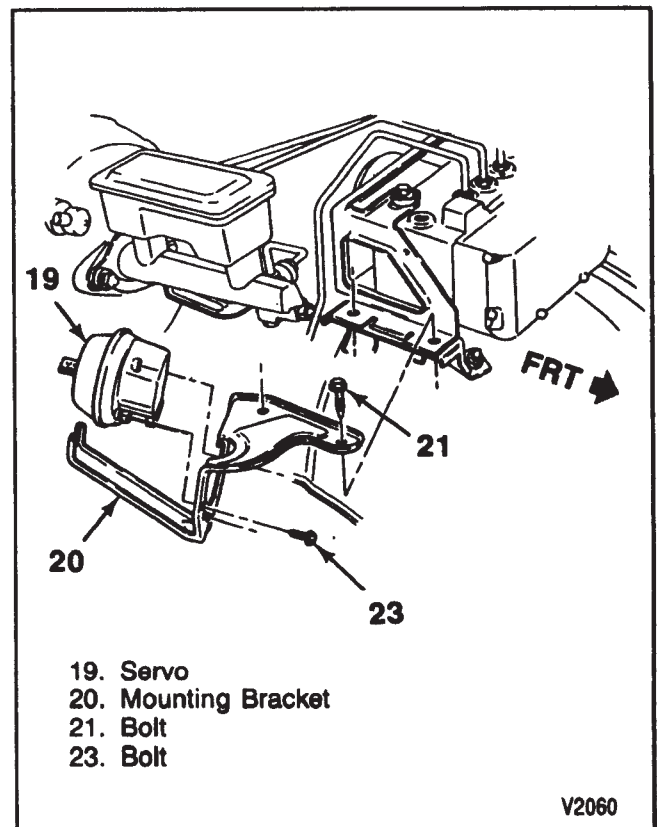

Figure 17—Servo Mounting
- Bolts (23) to 1.9 N·m (17 in. lb.) (figure 17).
3. Cruise control cable (29) to the nearest servo tab hole.